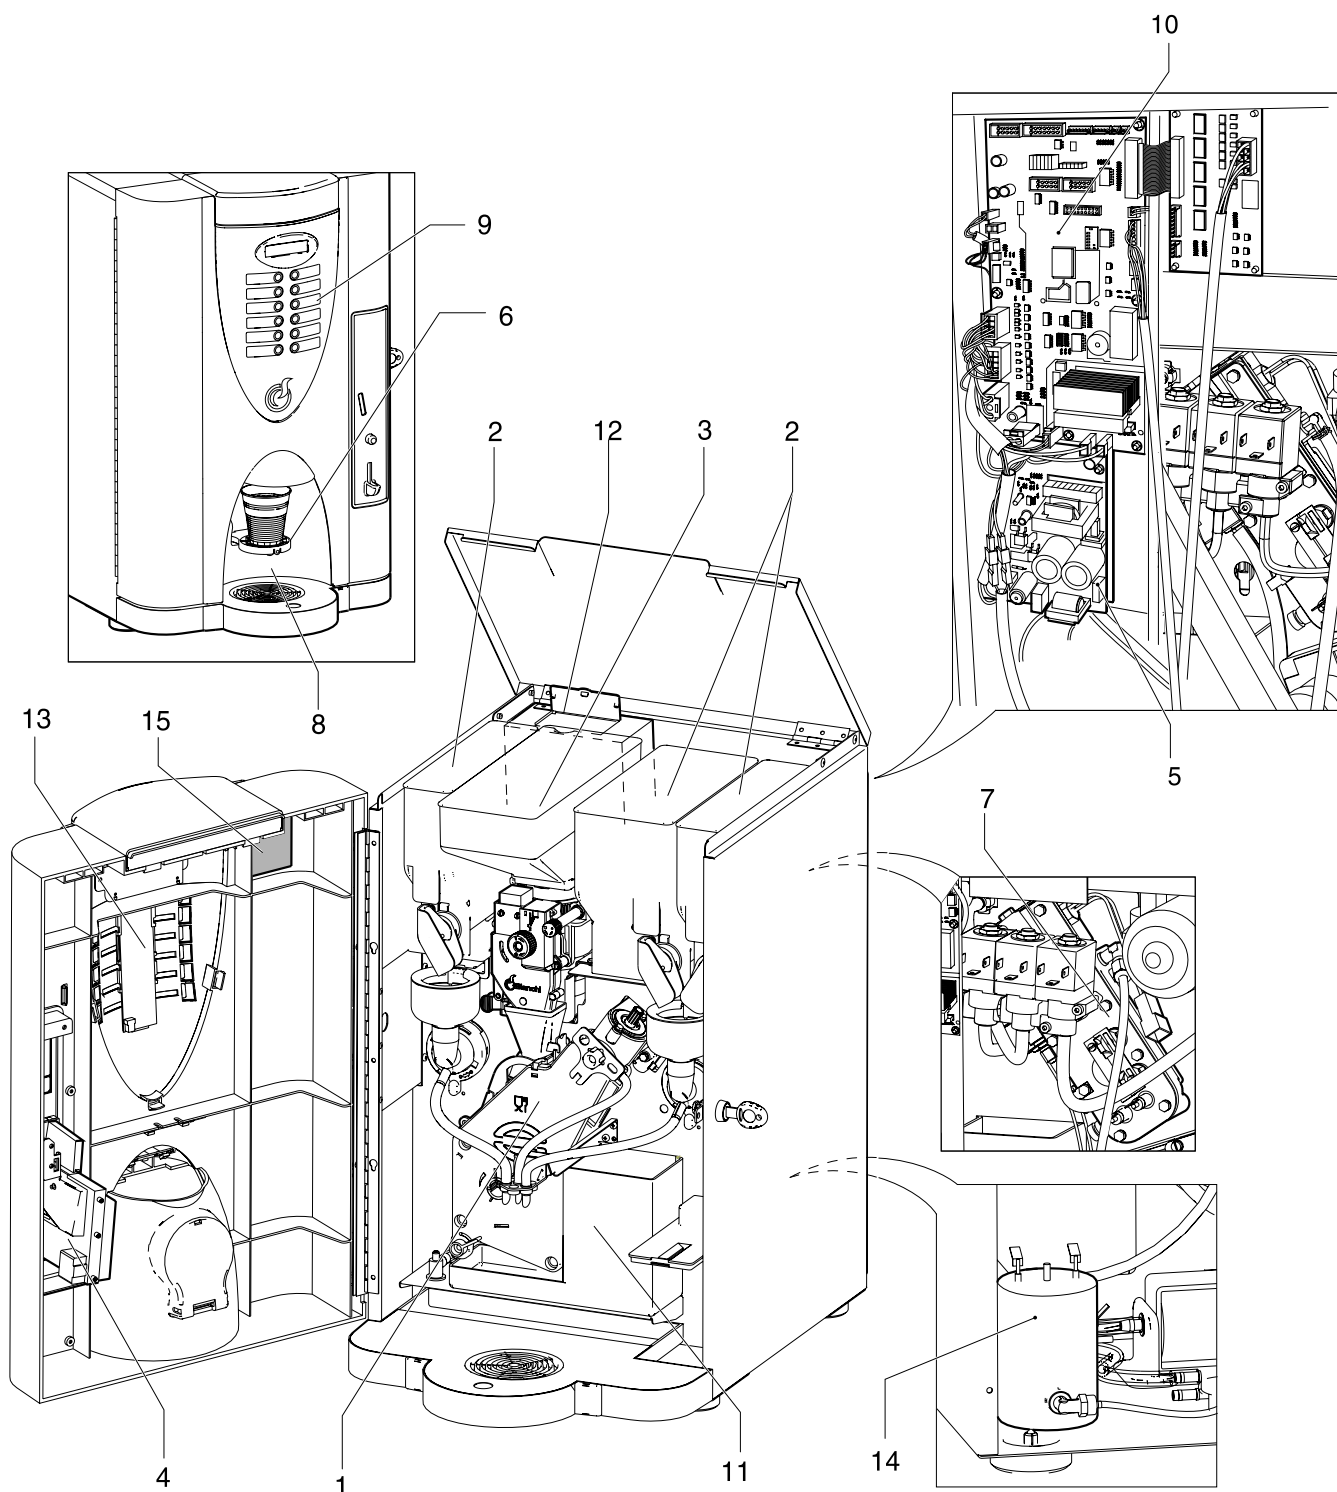

Fig. 3.1
3.1 Machine description (Fig.3.1)